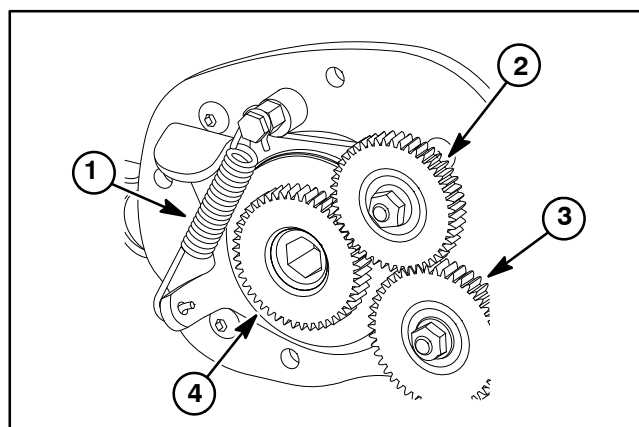

Figure 11
4. Remove groomer cover assembly (item 22) and gasket (item 20) from machine (see Groomer Cover (Counter Rotating Groomer Drive) in this section). Discard gasket.
5. Carefully remove extension spring from anchor points on RH drive plate (Fig. 11).
9. Install extension spring to RH drive plate assembly (Fig. 11).
11. Make sure that bushing (item 3) is installed in RH drive plate assembly.
13. Position RH groomer arm assembly to front roller, RH drive plate and cutting unit frame. Secure groomer arm to cutting unit with plow bolt (item 31), HOC washer (item 9) and HOC nut (item 2).
14. Secure RH groomer arm assembly to drive plate with spring washer (item 4) and lock nut (item 5).
15. Center front roller to cutting unit and tighten cap screws (item 7) to secure roller.
16. Fill groomer cover with approximately five (5) ounces (142 grams) of Mobil XHP221 grease (or equivalent). Install new gasket and then groomer cover assembly to RH drive plate (see Groomer Cover (Counter Rotating Groomer Drive) in this section).